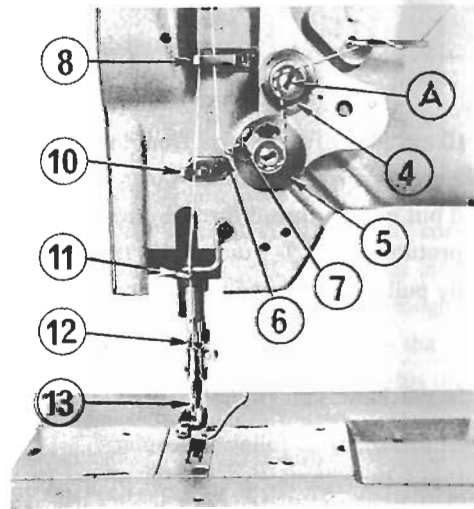

Fig. 11
The tension of the needle thread is adjusted by turning the thread tension nut (Fig. 11 ④).